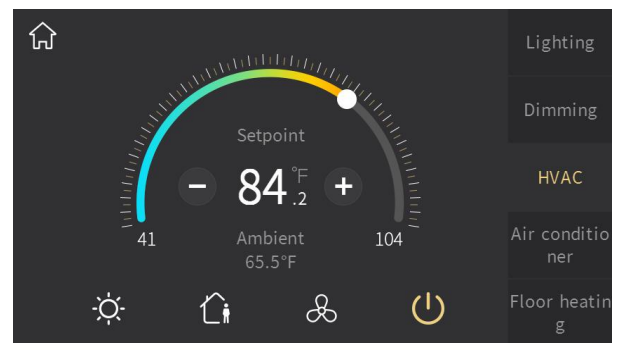

Fig.2.3.2
- ② This area displays the page description identification of HVAC function page, user can define the description through ETS;
- ③ Return to the home page by touching this icon;
- ④ Sliding this ring slider to adjust the setting temperature;
- ⑤ The function of this icon is to decrease the temperature;
- ⑥ The function of this icon is to increase the temperature;
Adjusting the temperature by sliding the ring slider④ or touching the icon⑤ and icon⑥. For each touching of icon⑤ and icon⑥, the adjustment range is 0.5 degrees. When the setting temperature unit is set to degrees Celsius(°C), as shown in 2.3.1, adjustment range of the setting temperature is 5~40°C by default; when the setting temperature unit is set to Fahrenheit(°F), the current temperature value will automatically convert to Fahrenheit value, as shown in Fig.2.3.2, adjustment range of the setting temperature is 41~104°F by default. The temperature adjustment range can be modified through parameter setting.